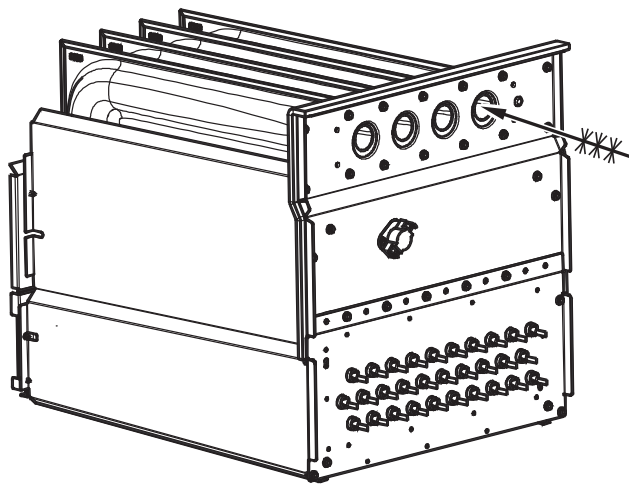
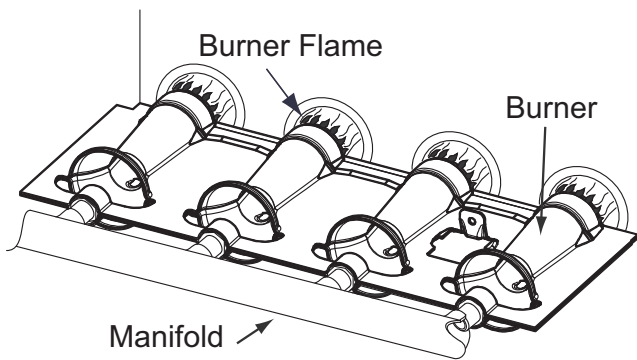

Fig. 68 - Cleaning Heat Exchanger Cell
Fig. 69 - Burner Flame
7. Clean heat exchanger openings with a vacuum and a soft brush. See Fig. 68.
8. Reverse items 6 through 1 for reassembly.
11. Check furnace operation through 2 complete heat operating cycles. Look at burners. Burner flames should be clear blue, almost transparent. See Fig. 69.